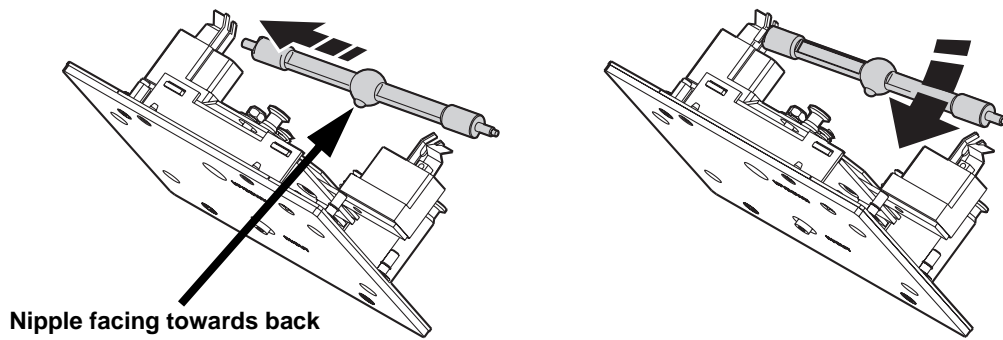

Figure 3: Lamp insertion
- With the nipple on the replacement lamp facing towards the back as shown in Figure 3, insert the left pin into the socket. Push down on the right-hand spring and snap the pin into place.